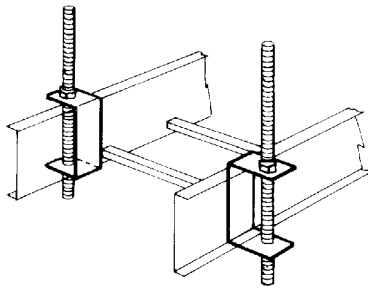

Figure 4.2A
4.2.1.2 Hanger Rod Clamp (See Figures 4.2A through 4.2E.)